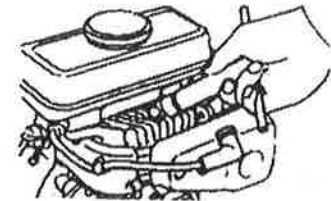

Fig. 17
1. Remove the spark plug by means of spark plug wrench (Fig. 17).